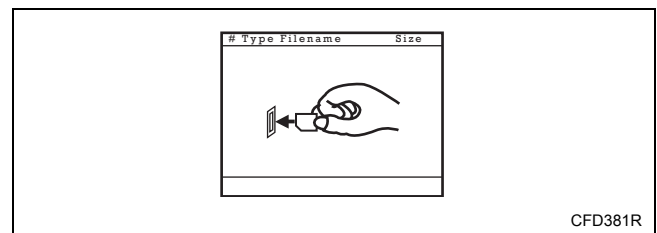

Figure 43
1. The “insert card” display will appear. Refer to *Figure 43*.